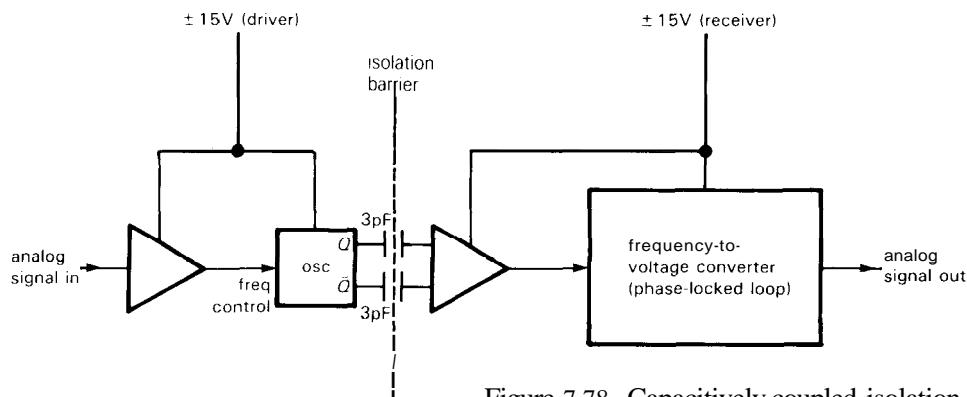
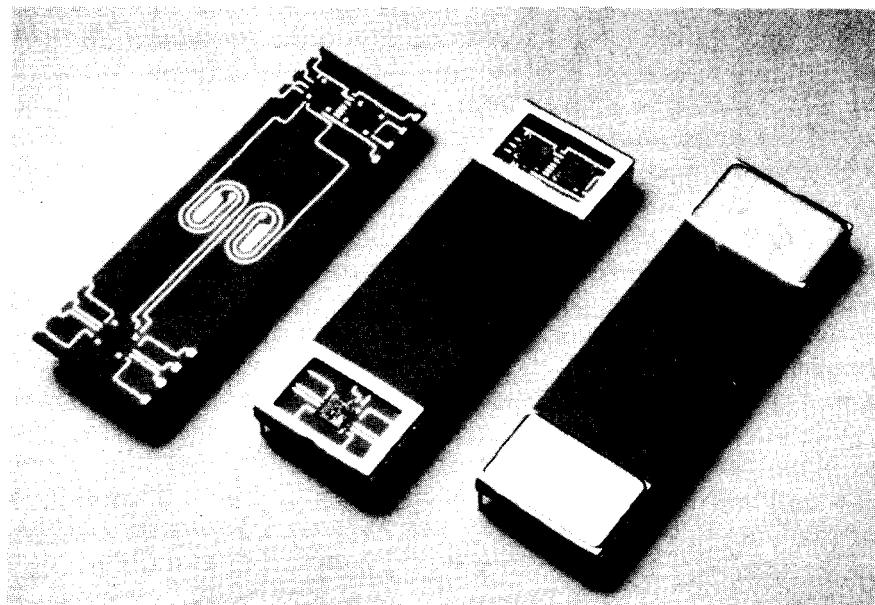

Figure 7.78. Capacitively coupled isolation amplifier.
Figure 7.79. Burr-Brown IS0106 isolation amplifier. (Courtesy of Burr-Brown Corporation.)
3. Capacitively coupled isolation of a high-frequency carrier signal, which is frequency-modulated with the signal to be isolated (Fig. 7.78). This technique is typified by the ISO102, ISO106, and IS0122 from Burr-Brown (Fig. 7.79). There is no feedback, as with transformer isolation, but for most models you need power supplies at both ends. This usually isn't a problem, since you are likely to have electronics at both ends, generating and using the signal. If not, you can get an isolated